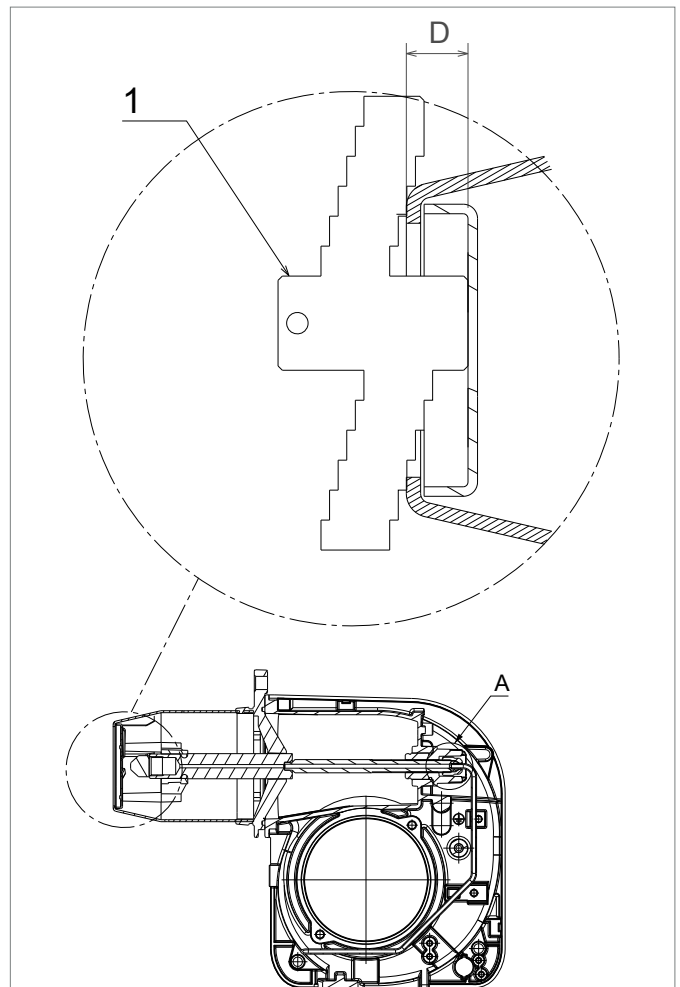

**Figure 16-3:** Ignition electrode settings
6. Check/adjust electrode setting. Refer to Figure 16-3.